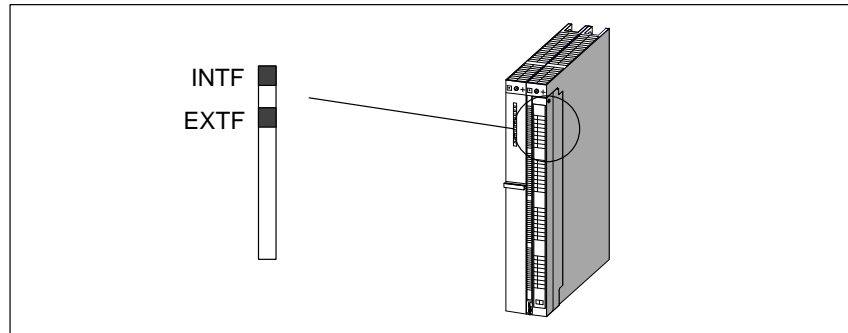

Figure 11-1 Status and Error Indicators of the FM 451
- the “INTF” LED lights up (see Figure 11-1) and does not go out and
- One of the two LEDs “INTF” or “EXTF” lights up (see Figure 11-1) and